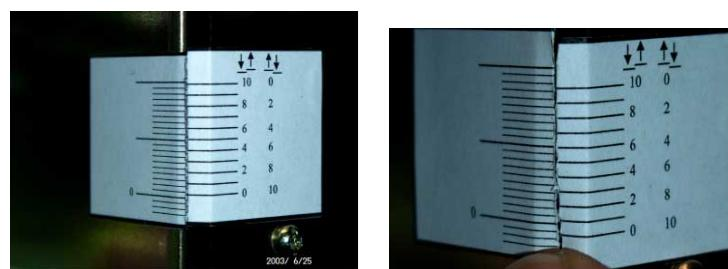

Figure 6
10. Measure the displacement of the end positions for top and bottom lamp by addressing them as active lamp and utilizing the cut measurement stickers. See fig. 6.